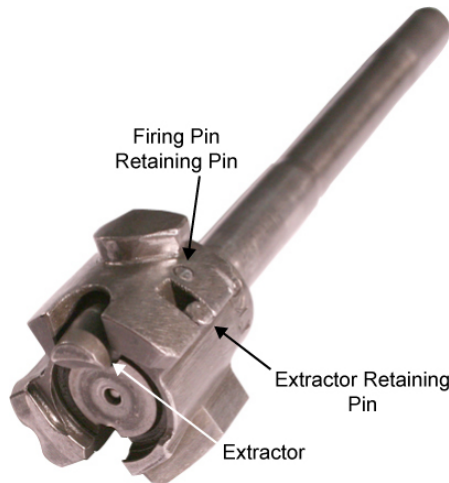

Figure 9. Firing Pin Retaining Pin Installed.
4. Install the firing pin retaining pin. Ensure the firing pin is secured by the firing pin retaining pin. Refer to Figure 9.